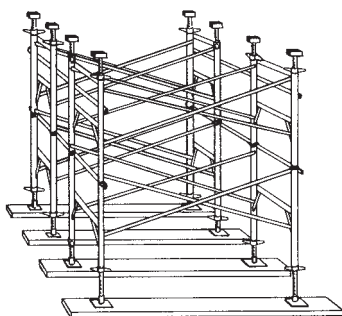

Figure 42-18: Towers Tied Together and Braced Horizontally
- If towers are to be tied together and braced horizontally, this should be done as work progresses (Figure 42-18).